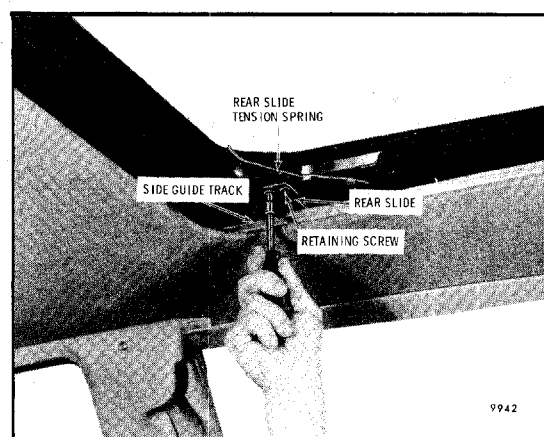

Fig. 8-111-Removing Retaining Screws From Rear Slide Assembly - C Styles
9. Remove the two retaining screws from each rear slide assembly on C styles (Fig. 8-111).